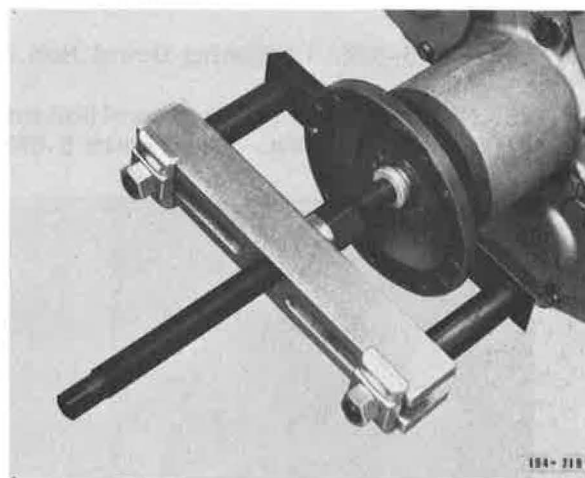

Figure 5-690. Removing Drive Flange
25. Install puller J-29031 or equivalent, and remove drive flange (or yoke) from rear mainshaft splines. See **Figure 5-690**.